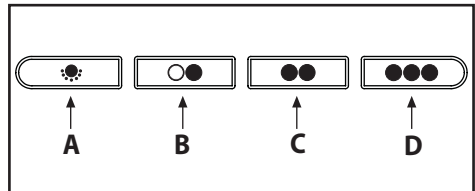

Fig.12
• Mechanical controls (Fig.12): the symbols are as follows: